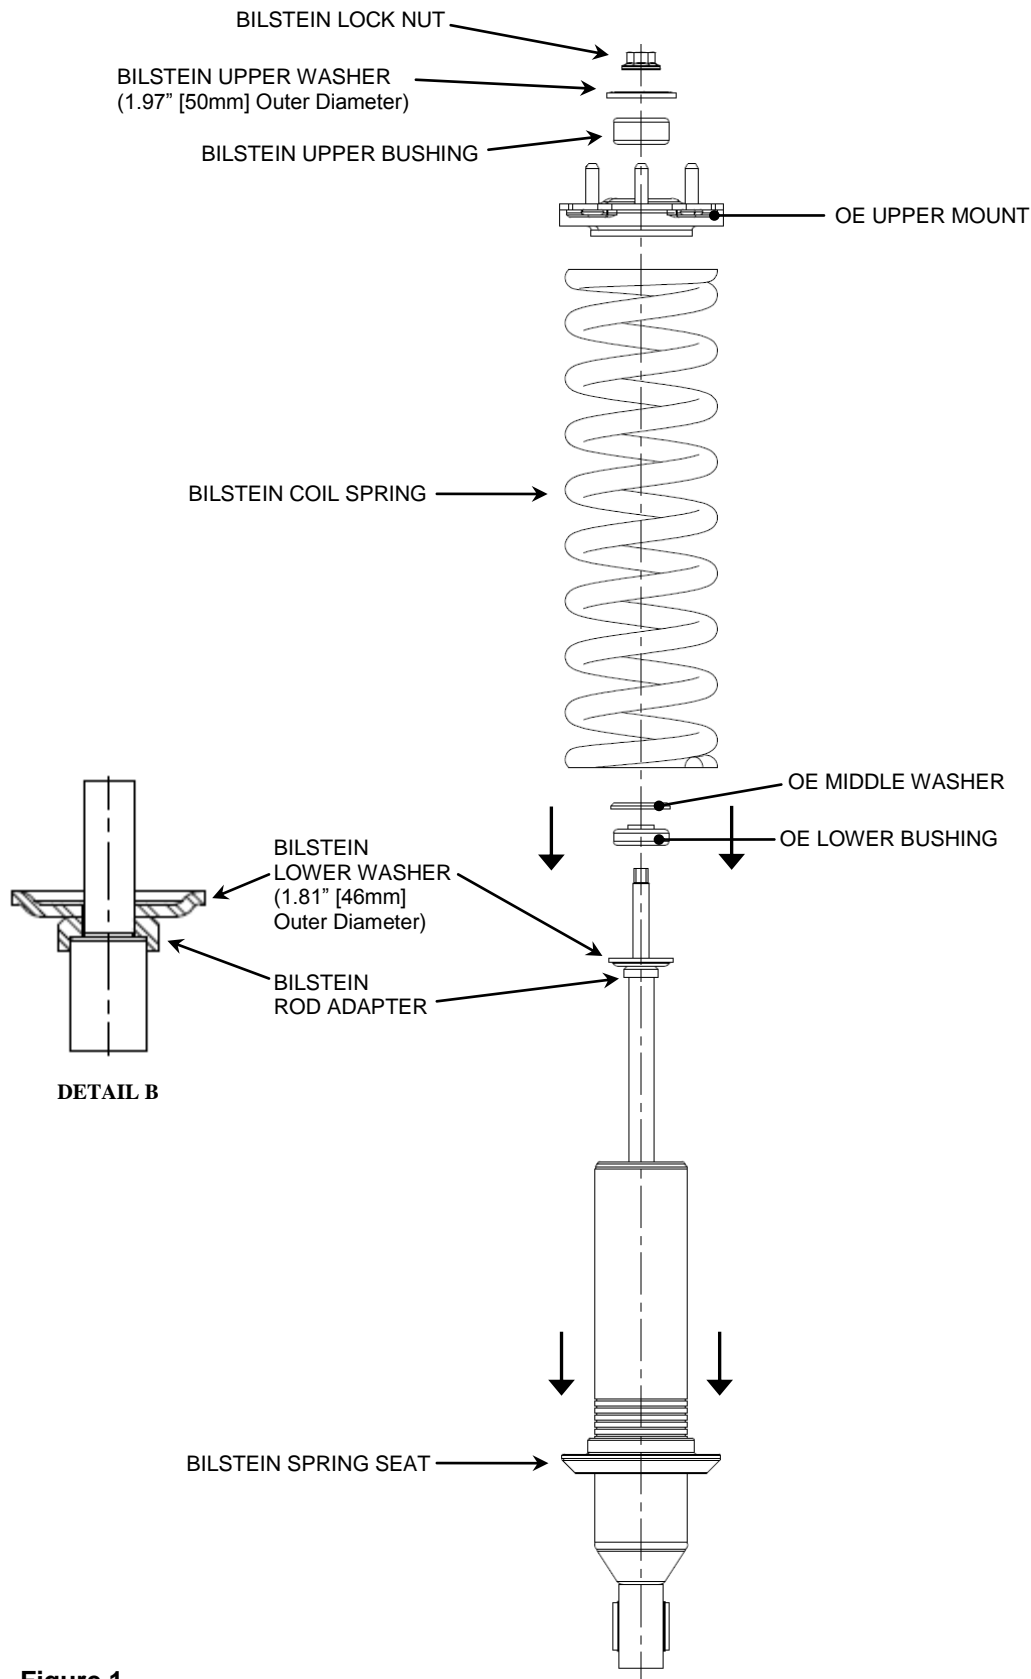

Figure 1
- E. Install the supplied rod adapter (counter bore side down) onto the stem of the rod as shown. Ensure that the rod adapter is oriented correctly (see Figure 1 DETAIL B).
- F. Install the supplied lower washer (concave side up) onto the stem of the rod as shown. Ensure that the lower washer is oriented correctly (see Figure 1 DETAIL B).
- G. Install the OE lower bushing and OE middle washer (concave side down) as shown and in accordance with the vehicle manufacturer's Service Manual (see Figure 1).
- J. Install the supplied upper bushing and supplied upper washer (concave side down) onto the stem of the rod as shown. Ensure that the upper washer is oriented correctly (see Figure 1).